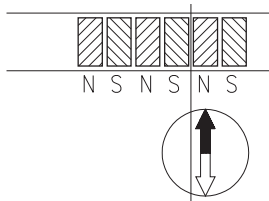

Fig. 16: Determination of the pole position. Cutting the magnetic strip
- If necessary, use a compass needle to determine the location of the poles on the magnetic strip (fig. 16).